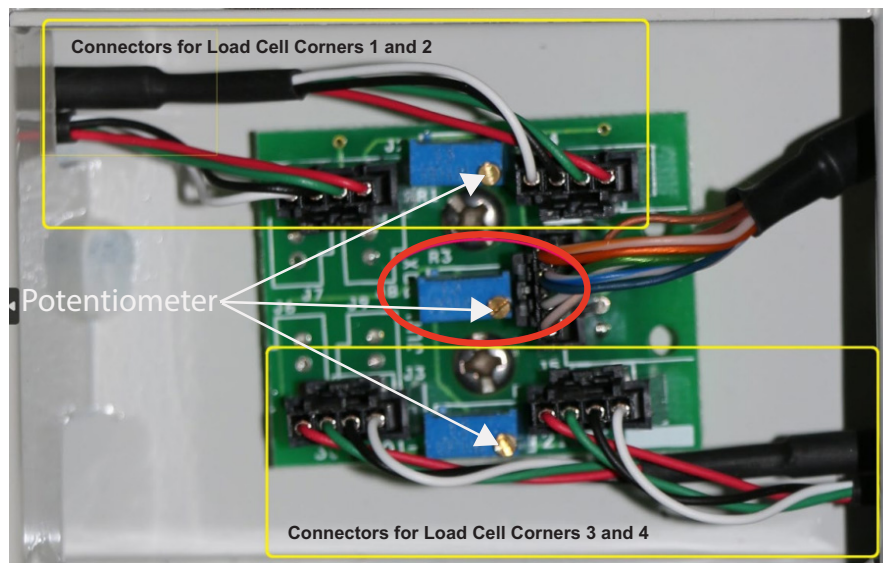

Figure 8. Potentiometer Locations
9. Adjust the potentiometer in between the connectors for load cell corners 1 and 2 by rotating the screw with the tweaker screwdriver (see Figure 8).
13. Adjust the center potentiometer until an equal value is reached between the sides with a margin of 2 units of A/D (see Figure 8).